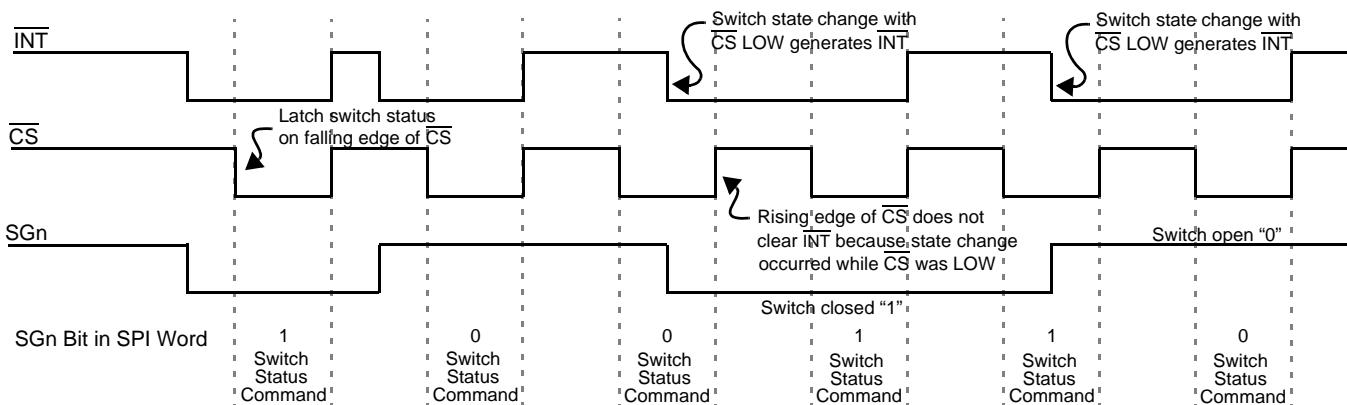

Figure 6. Normal Mode Interrupt Operation
2. \overline{INT} pin is reset to logic [1], except when additional switch changes occur during CS LOW. (See Figure 6 on page 9.)